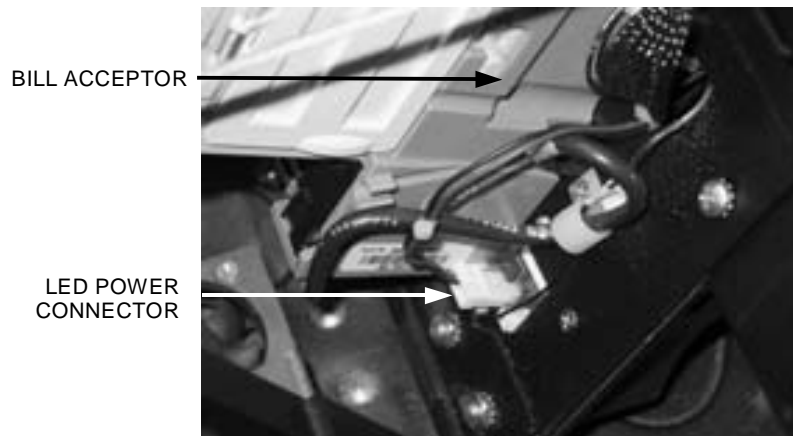

FIGURE 1 - REAR VIEW OF CPU SECTION
3. In the cash tower section disconnect the 4-pin connector from the LED board (see Figure 1) and carefully route the wires back through the access hole below the
10. Connect the power connector to the LED board, which is located on the back of the CPU section (see Figure 1).